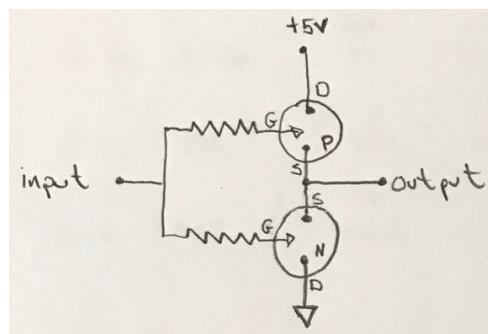

Figure 6: A CMOS NOT gate.
1. Ensure that the switches beside the Logic Switches and Logic Indicators are set to CMOS. And then use the resistors and transistors, one N-Type and one P-Type, from your parts bin to build a CMOS NOT gate as shown in Figure 6. Connect a Logic Switch as the input and a Logic Indicator as the output. **Have the instructor inspect your circuit when it is complete and before turning on the Proto-Board power.**